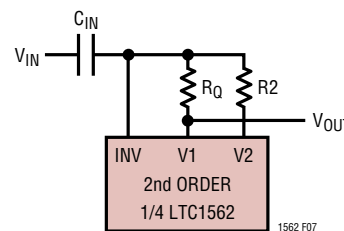
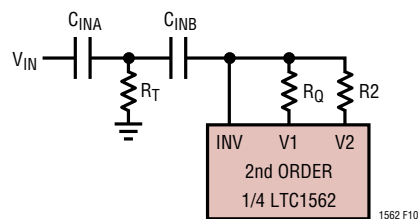

Figure 7. Basic Highpass Configuration
Figure 10. Highpass “T” Input Circuit
When  $Z_{IN}$  of Figure 3 is a capacitor of value  $C_{IN}$ , a highpass response appears at the V1 output (Figure 7).
- Highpass response (capacitor input, V1 output, Figure 7) with  $f_0 > 100\text{kHz}$
A method similar to the preceding technique adds an “extra” highpass pole to any capacitor-input application (such as the bandpass of Figure 6b or the highpass of Figure 7). This method splits the input capacitance  $C_{IN}$  into two series parts  $C_{INA}$  and  $C_{INB}$ , with a resistor  $R_T$  to ground between them (Figure 10). This adds an extra 1st order highpass corner with a zero at DC and a pole at the frequency: